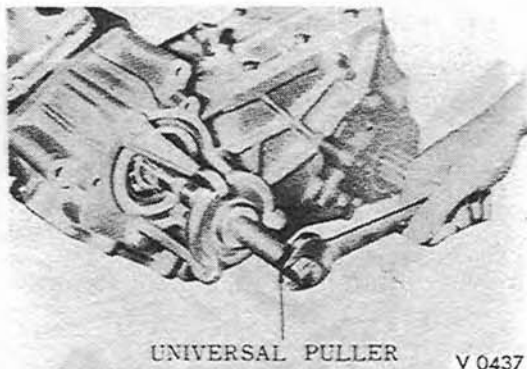

Fig. 3-11. Removing the transfer case from the transmission case with universal puller.
5. Install a universal puller in the three tapped holes (10 mm, 1.25 p) in the transfer case, and remove the transfer assembly and the transfer case packing from the transmission case. (Fig. 3-11)